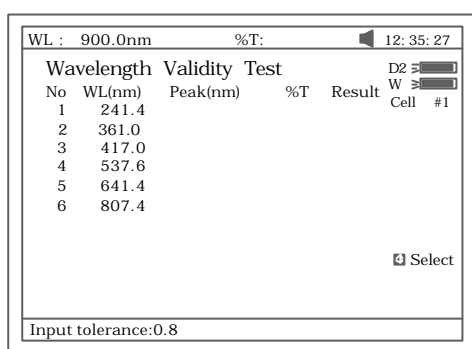

Fig 98
- Press **[F3]** to set tolerance (Fig 98). Input the value by pressing the numeric keypad.